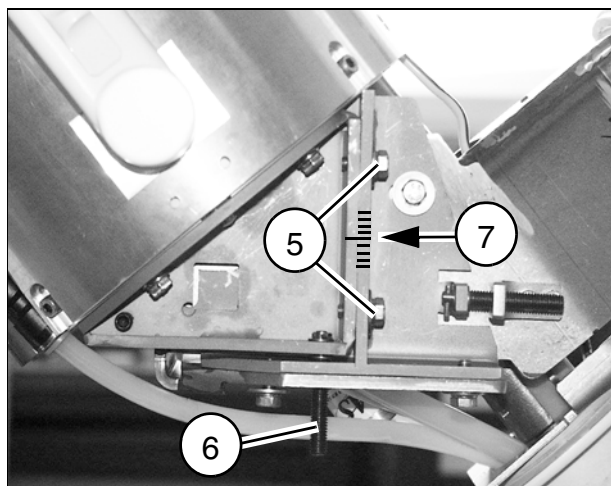

Fig. 4
- Loosen the screws (5/Fig. 4) on both sides.
- Correct the position of the shock wave head with the screw (6/Fig. 4) as shown in (D/Fig. 6).
- Correct the position of the shock wave head with the screw (6/Fig. 4) as shown in (E/Fig. 6).
- The shock wave head must be moved in parallel (see scale 7/Fig. 4).
The screw (6/Fig. 4) is also located on the other side of the shock wave head support.